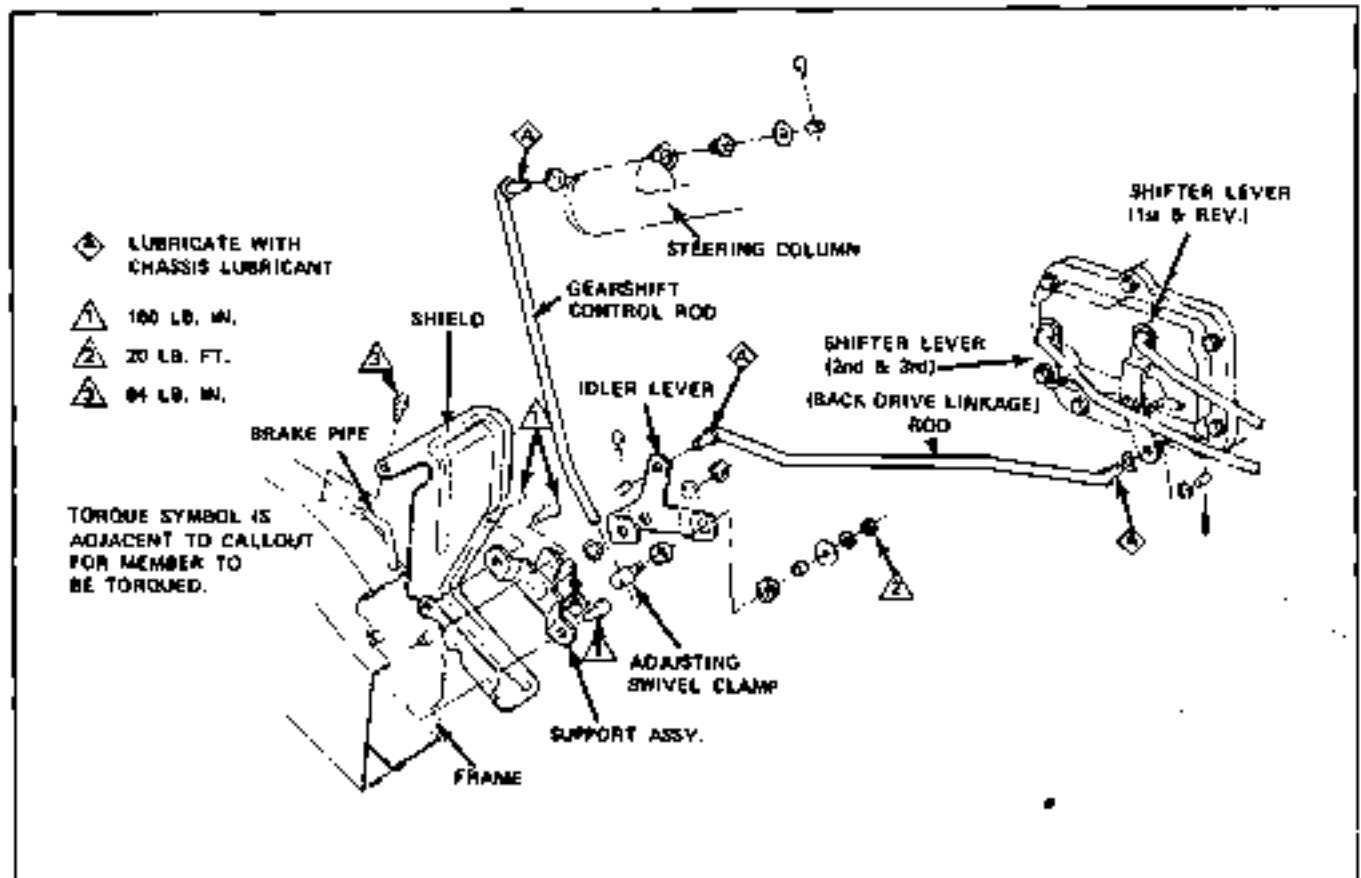

Fig. 7B-5B Firebird Back Drive Linkage
c. Replace the three (3) keys and two (2) springs in position (one on each side of hub) so all three keys are engaged by both springs (Fig. 7B-20).